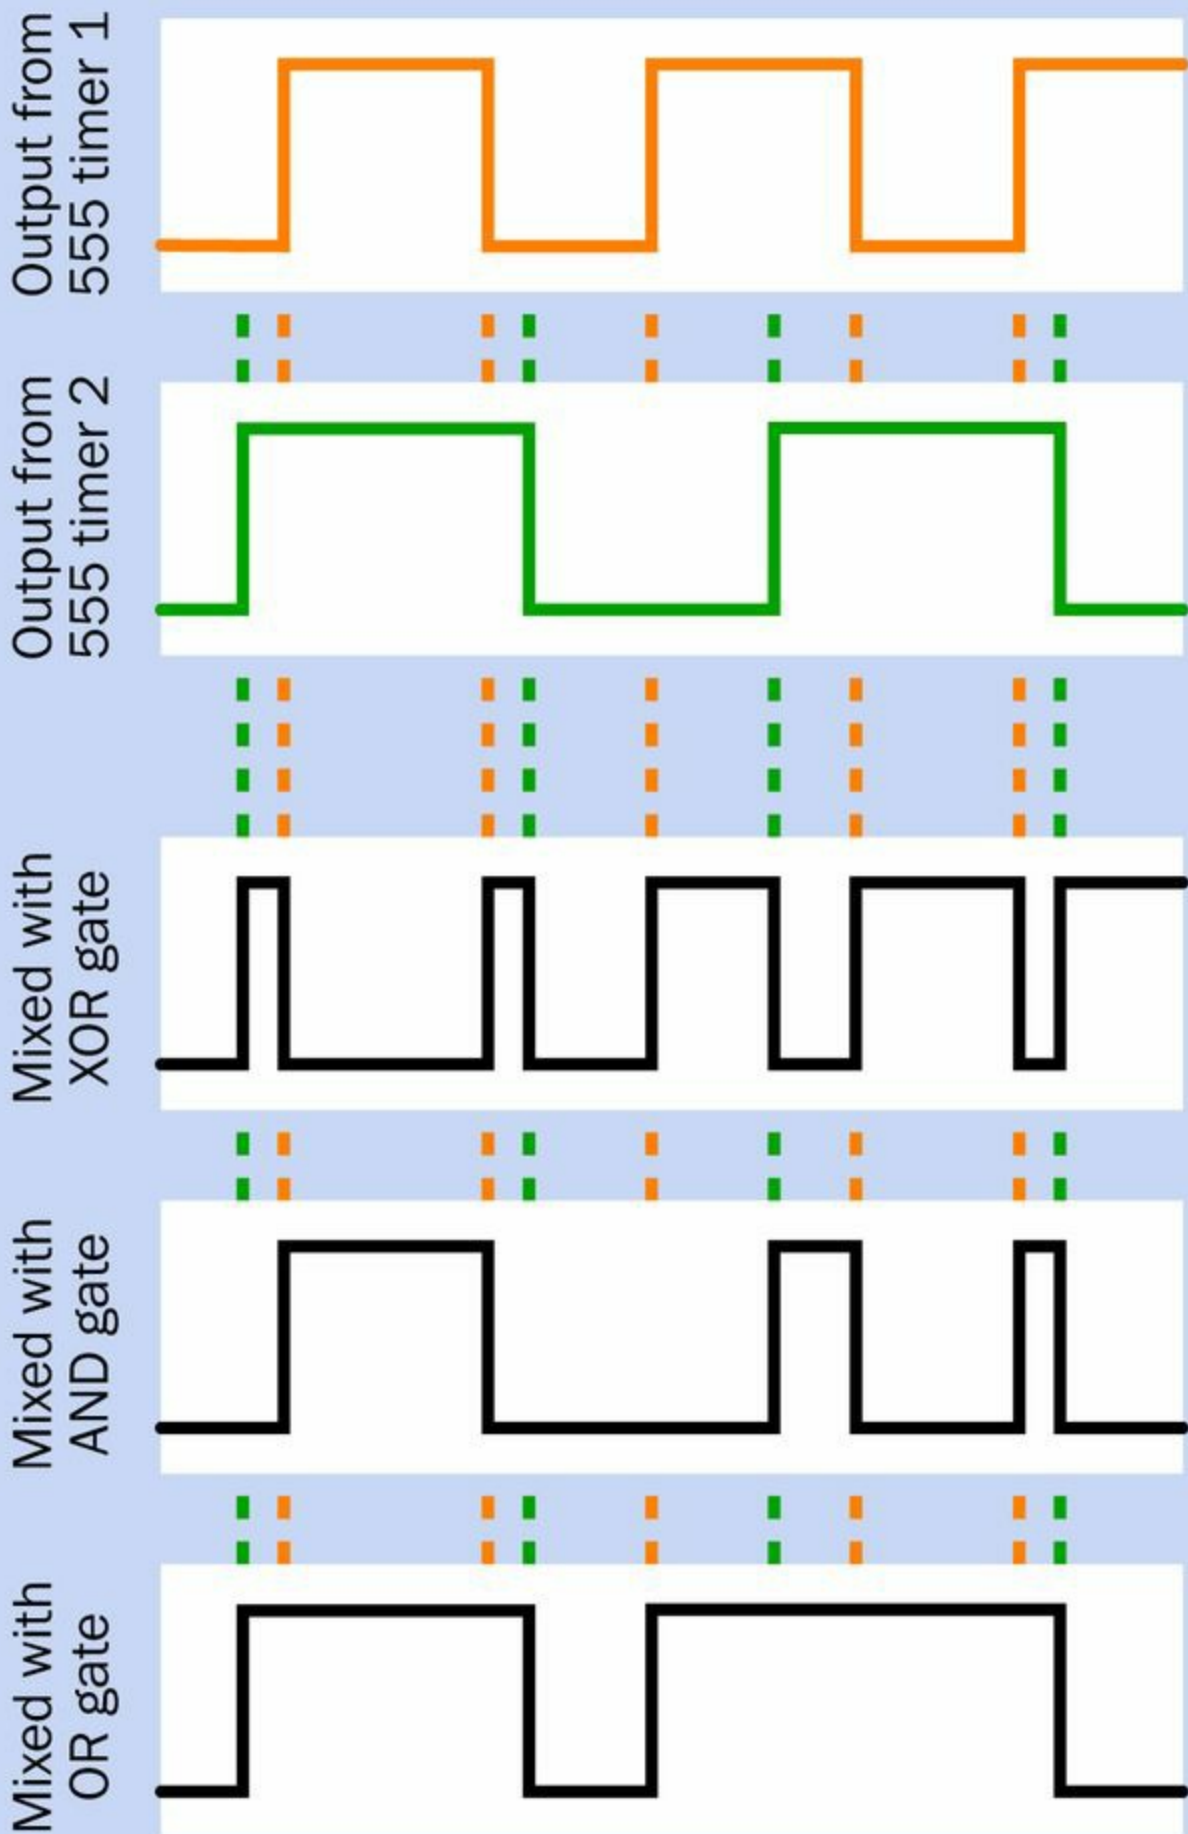

Figure 22-3. As the highs and lows of two audio frequencies overlap, different logic gates will create contrasting audio
**Figure 22-3** shows this graphically, with an XOR and also with an AND and an OR gate. The pinouts of the 74HC08 quad two-input AND chip, the 74HC32 quad two-input OR chip, and the 74HC86 quad two-input XOR chip are all the same, so you don't need to change the wiring of your circuit to hear the different effects when you swap chips in and out.